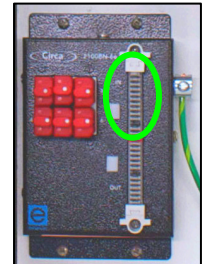

Fig. 13: “IN” Side
- 2.1.4** After determining the optimum length, the trimmed, unterminated (open) end of the 48” connection cable are to be punched down onto the “IN” side of the 6-pair solid state protector block. See Figure 13.